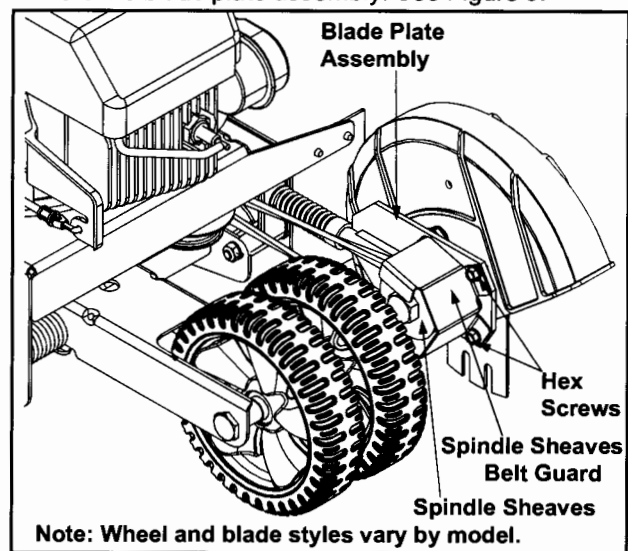

Figure 9
- Remove the spindle sheaves belt guard by removing the two self-tapping screws which secure it to the blade plate assembly. See Figure 9.